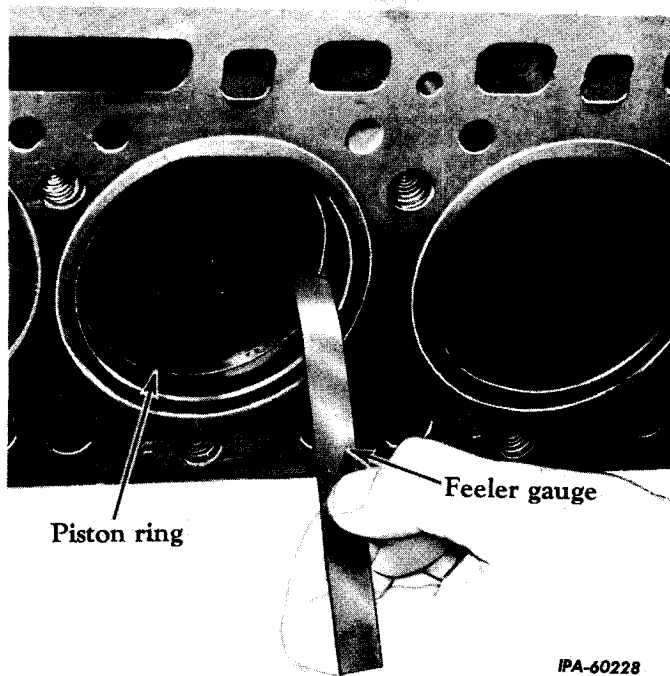

Fig. 8 - Checking Ring Gap (135 Series Shown).
10. Insert each ring into the sleeve or cylinder bore for that piston. Force them squarely down inside the sleeve or cylinder bore. Position a feeler gauge between the ends of the ring (Fig. 8), and compare the existing gap against the specified gap for a new ring. (Refer to "SPECIFICATIONS," Section 1.) Replace if not as specified.